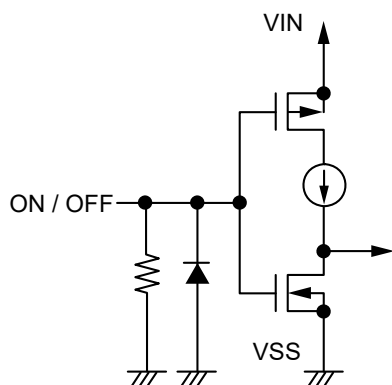

Figure 18 S-1312 Series A / C type
Note that the current consumption increases when a voltage of 0.25 V to $V_{IN} - 0.3$ V is applied to the ON / OFF pin. The ON / OFF pin is configured as shown in **Figure 18** and **Figure 19**.
*1. Note that the IC's current consumption increases as much as current flows into the pull-down resistor when the ON / OFF pin is connected to the VIN pin and the S-1312 Series A / C type is operating (refer to **Figure 18**).